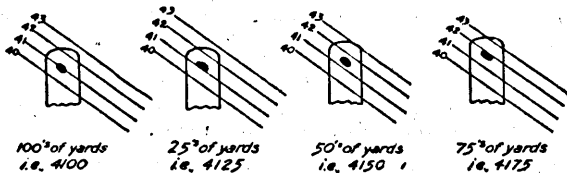

FIG. 5. RANGE SCALE SETTINGS.
(8) *To set the range.*—To set a range, the gunner grasps the range-scale mechanism handwheel with his right hand and turns it until the announced range is below the index of the sliding range indicator (fig. 5), making sure that the last motion is such as to depress the sight, that is, in the direction of increasing range.